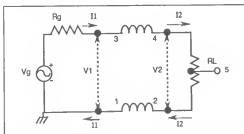

Figure 1. The Guanella 1:1 balun : the basic building block
The earliest presentation on transmission line transformers was by Guanella in 1944 (2). He proposed the concept of coiling transmission lines to form a choke that would suppress the undesired mode in balanced-to-unbalanced matching applications. His 1:1 balun, also known as the Basic Building Block, is shown in Figure 1. The choking reactance, which isolates the input from the output, is usually obtained by coiling the transmission line around a ferrite core or by threading the line through ferrite beads. The objectives, in practically all cases, are to have the characteristic impedance, Z_0 , of the transmission line equal to the value of the load, R_L (which is called the optimum characteristic impedance) and to have the choking reactance much greater than R_L (and hence Z_0). Meeting these objectives results in a 'flat' line and hence maximum high-frequency response and maximum efficiency since conventional transformer currents are suppressed.